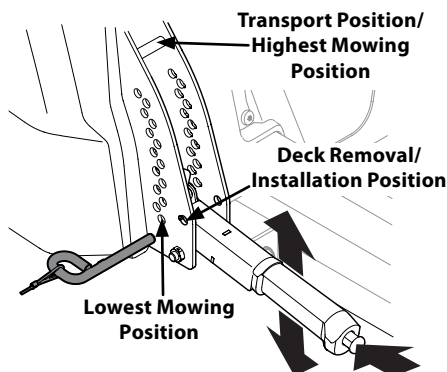

Figure 4-11
- Using the deck lift handle, raise the deck to the position that provides the most horizontal run of the belt between the deck idler pulleys and the PTO pulley on the bottom of the engine. See Figure 4-11.
- Lower the deck into the deck removal/installation position using the deck lift handle. See Figure 4-11.
1. Place the deck lift handle in the highest mowing position See Figure 4-11.